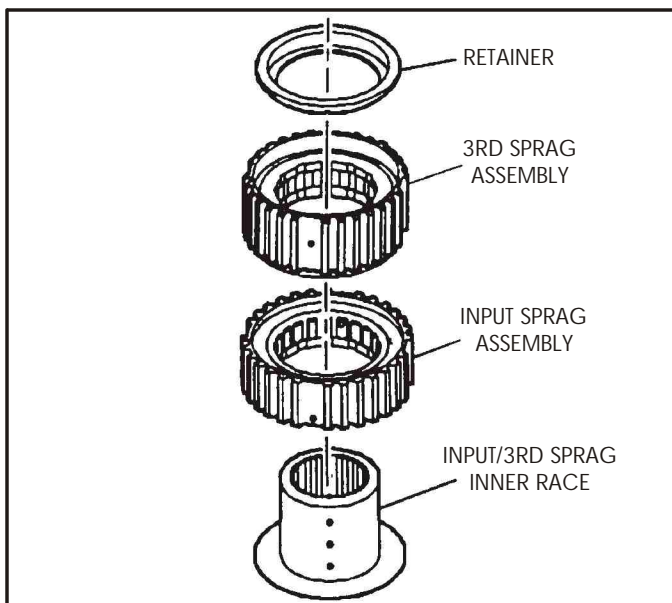

Figure 99
9. Place the input/3rd sprag inner race (661) on a flat work surface with the flange facing down, as shown in Figure 99.
10. Install the input sprag assembly and 3rd sprag assembly onto the inner race (661), as shown in Figure 99.
11. Install the sprag retainer (718) onto the inner race, as shown in Figure 99.